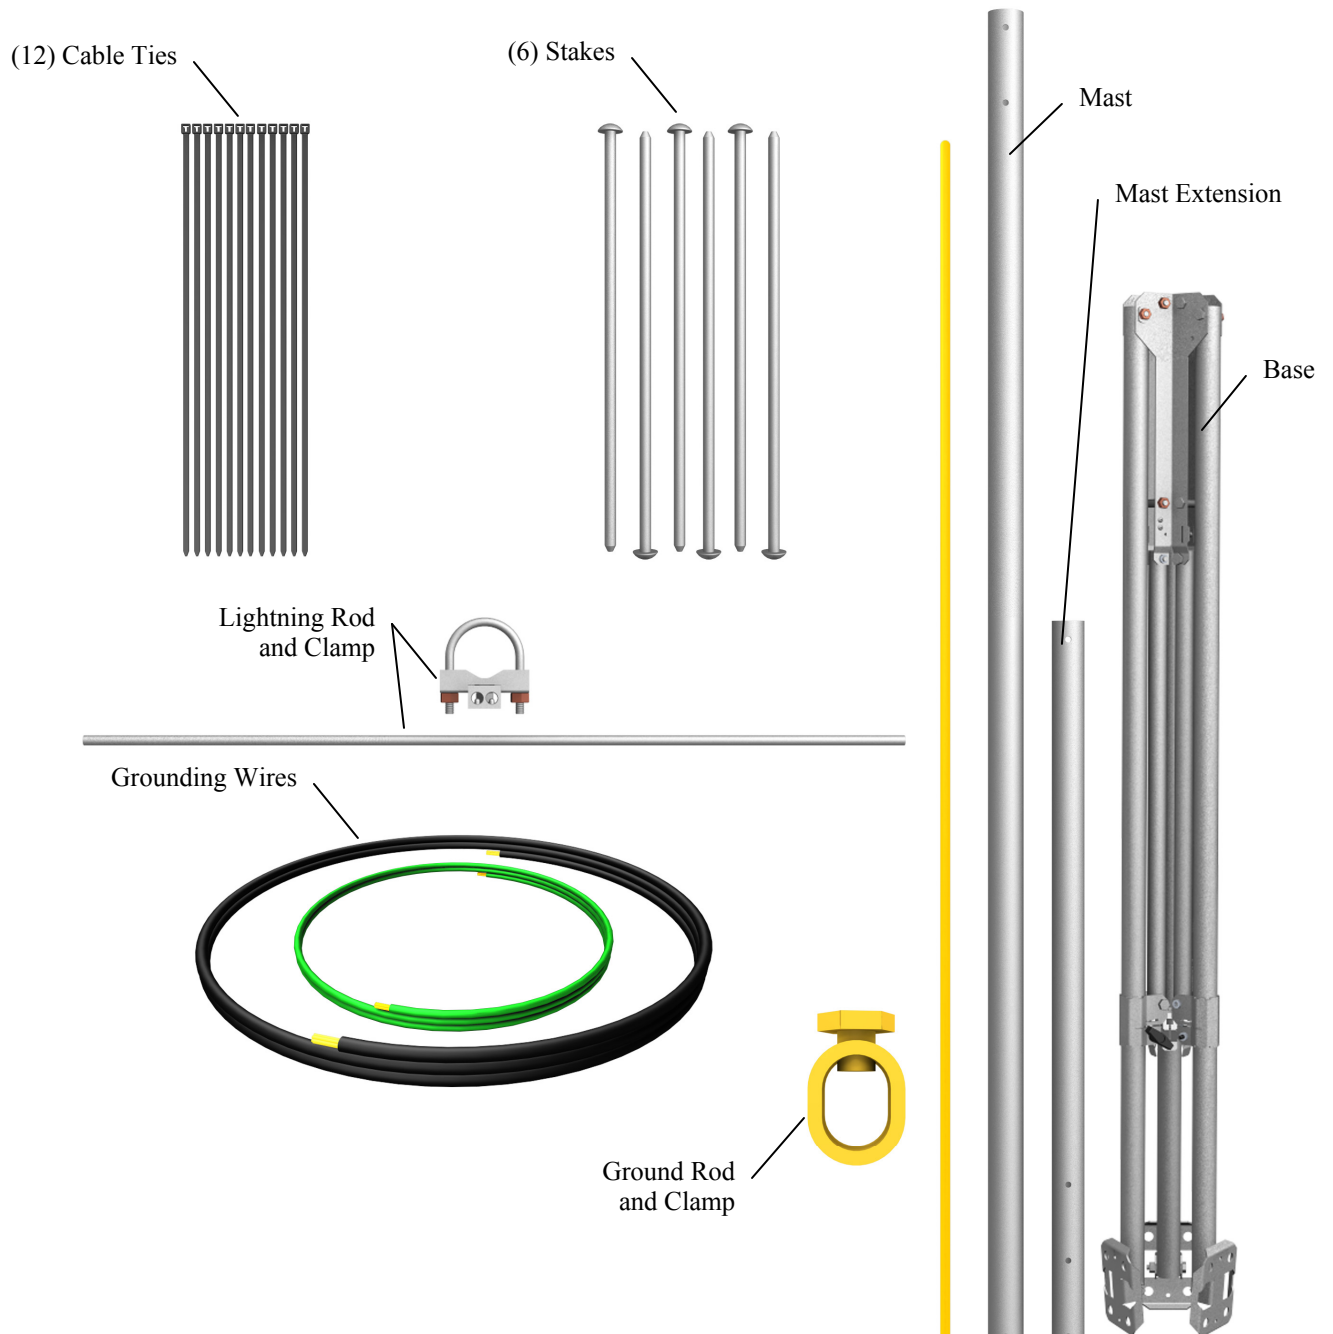

FIGURE 4-1. Tripod components
Figure 4-1 shows the tripod components. The tripod base is packaged with the mast, ground rod, lightning rod and (6) stakes. The ground rod clamp, lightning rod, cable ties, and grounding wires are enclosed in a bag. The optional guy kit is packaged separately.